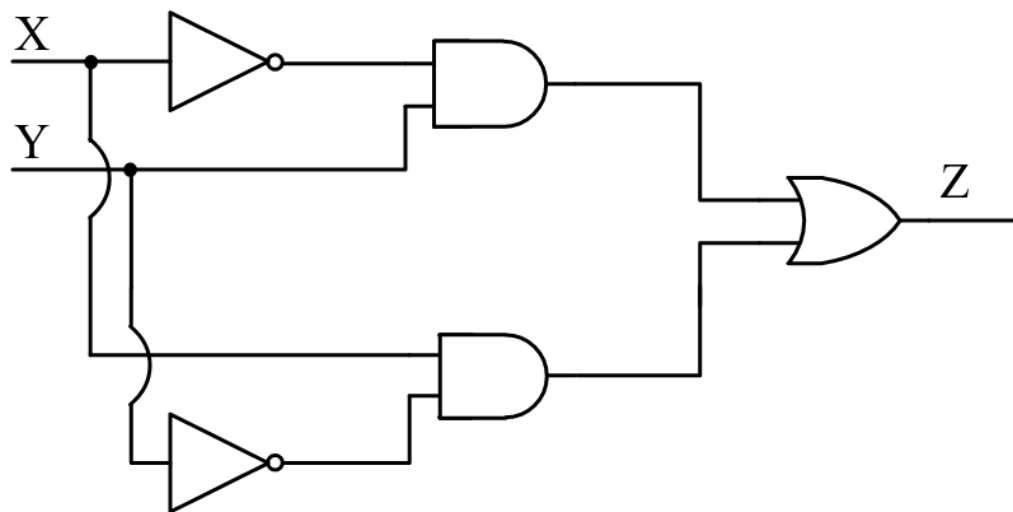

Figure 3.11:
24. Find the logic function implemented by the circuit given below in Fig. 3.11 (GATE EE 2019)